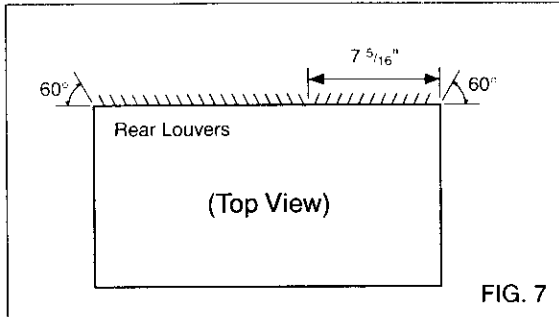

FIG. 7
- 1** Redirect the louvers at the back of the wall sleeve to 60° angle as shown in the FIG 7. The use of pliers is recommended.